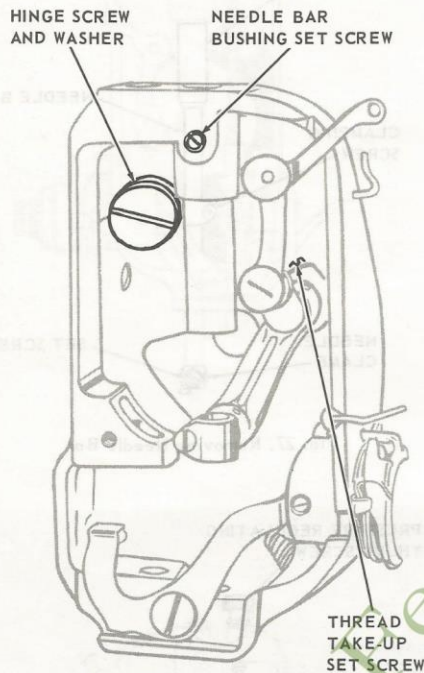

Fig. 29. Removal of Thread Take-up
3. Loosen set screw, Fig. 29, and remove needle bar bushing.
5. Turn hand wheel until thread take-up set screw, Fig. 29, is accessible through access hole in rear of machine.
1. Replace take-up linkage in reverse order instructed for removal with flat of stud toward thread take-up set screw, Fig. 29.